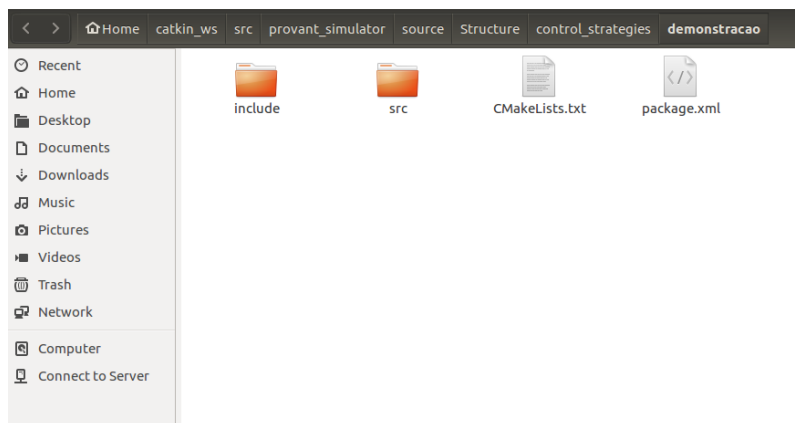

Figure 3.7: Directory containing all the files and folders associated to the control strategy to be modified.
To modify an existing control strategy, the user must select its name among several ones listed in the listing box (item 1) and click the button *Open controller* (item 3). After choosing the strategy, the file manager Nautilus will be opened in the directory containing all the files and directories associated with the controller, as shown in Figure 3.7.